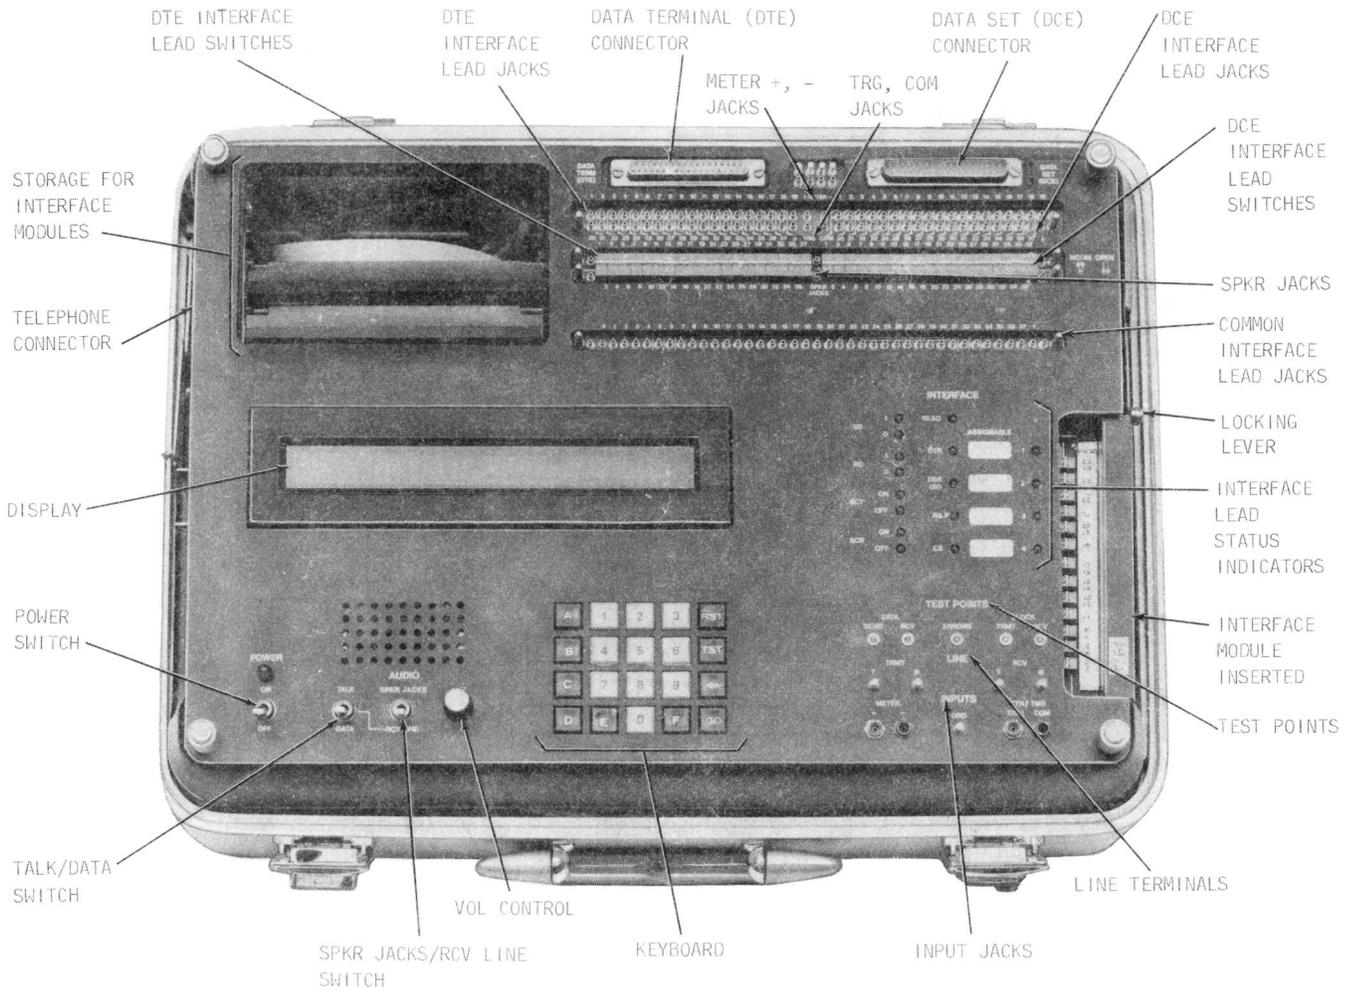

Fig. 1—921A Data Test Set—Front Panel
**1.06** The 921A DTS (Fig. 1) is a portable, general purpose data test set that provides the serial testing capabilities of the 914C DTS and is compatible with the 914C DTS for the testing of serial data sets. The 921A DTS also provides additional testing capabilities that are described in Section 107-402-100. Input to the 921A DTS is made through a 20-button keyboard. A 32-character display provides operator prompting and test results.